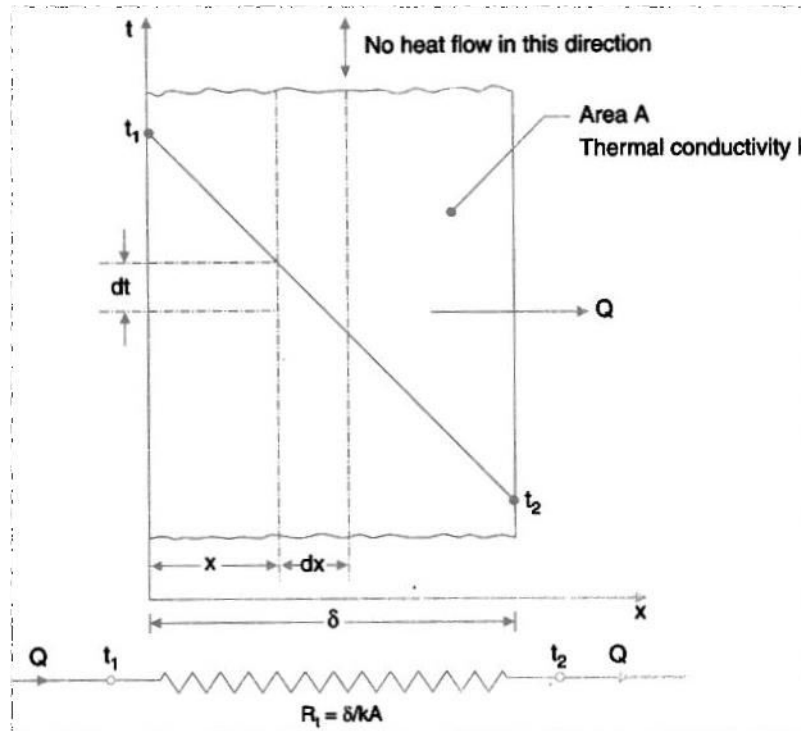

Fig. 2.6 Heat conduction through plane wall
- Where $R_t = \delta/k A$ is the thermal resistance to heat flow. Equivalent thermal circuit for flow through a plane wall has been included in figure 2.6.